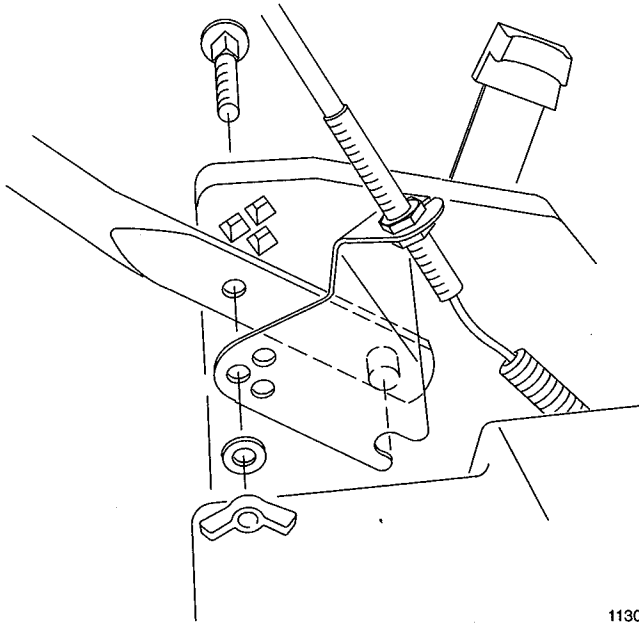

Figure 50
1. Remove handle mounting hardware from handle brackets (Fig. 50).